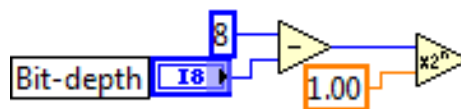

Figure 8: Wiring for Mathematical Function
4. As shown in Figure 8, place **Subtract** and **Scale By Power of 2** located on **Function>> Mathematics>> Numeric**. Then, wire them.